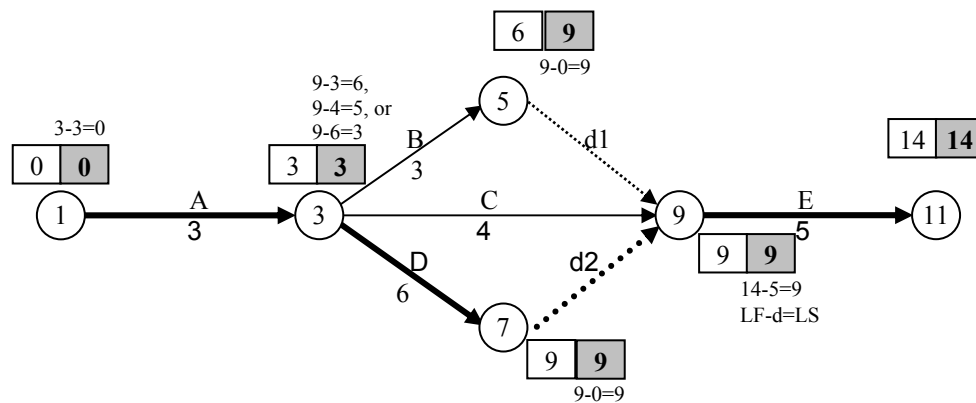

Figure 4.6: Backward path calculations in AOA networks
The backward path determines the late-finish (LF) times of activities by proceeding backward from the end node to the starting node of the AOA network. We put the LF values in the right side boxes adjacent to the nodes, as shown in Figure 4.6. For the example at hand, we do the following:
One interesting observation in the results of CPM analysis is that critical activities form a continuous path of the critical activities that spans from the beginning to the end of the network. In our example, activities A, D, and E (excluding dummy activities) are critical and the critical path is indicated by bold lines on Figure 4.6. Notice that among the 3 paths in this example (A-B-E; A-C-E; and A-D-e), the critical path is the longest one, an important characteristic of the critical path. In real-life projects with many activities, it is possible that more than one critical path are formed. By definition, the length of these critical paths is the same.